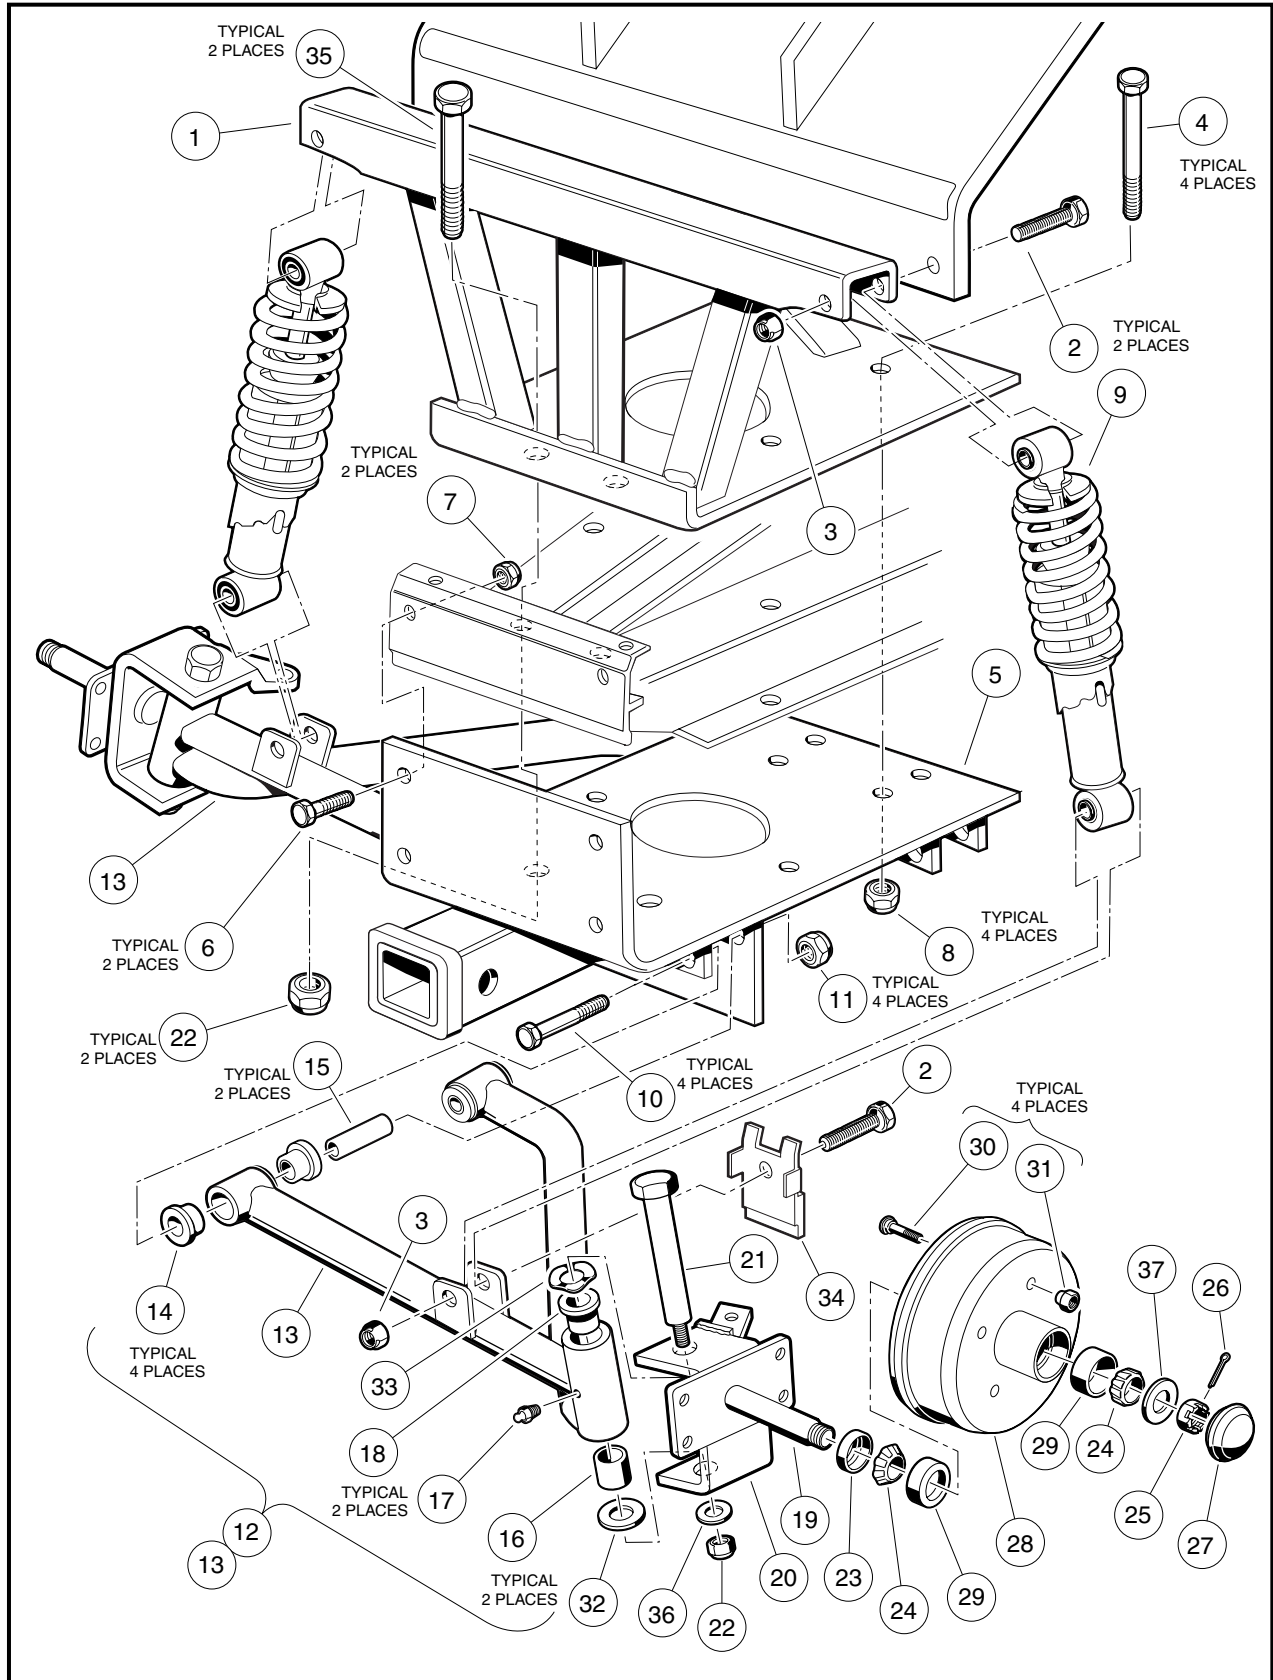

Figure 7-29 Front Suspension
5. Remove the nut (22), washer (36) and kingpin (21) (**Figure 7-29, Page 7-16**).
6. Remove the thrust washer (32).
7. Remove the wave washer (33) and inspect it. If the washer is broken or has a wave bottom to wave crest height dimension of less than 0.040 inch (0.10 cm), it must be replaced.
8. Slide the spindle assembly (20) off of the A-arm (13).
2. Inspect the kingpin (21) and spindle (19). If either are worn or damaged, they must be replaced (**Figure 7-29, Page 7-16**).
4. Install the spindle assembly (20) onto the A-arm (13) (**Figure 7-29, Page 7-16**).
5. Install the thrust washer (32), wave washer (33) and kingpin (21).
6. Install the washer (36) and a new lock nut (22). Tighten to 18 ft-lb (24.4 N·m).
8. Install the lock nut (24) and tighten to 40 ft-lb (54.2 N·m).
9. Install a new cotter pin (18) and bend it to secure it to the ball joint.
10. Use a grease gun and apply grease to the grease fitting (17) in the A-arm (13) (**Figure 7-29, Page 7-16**).
3. Remove the nut (22), washer (36) and kingpin (21) (**Figure 7-29, Page 7-16**).
4. Remove the thrust washer (32).
5. Remove the wave washer (33) and inspect it. If the washer is broken or has a wave bottom to wave crest height dimension of less than .040 inch (0.10 cm), it must be replaced (**Figure 7-29, Page 7-16**).
6. Slide the spindle assembly (20) off of the A-arm (13).
7. Remove the lower shock absorber mounting bolt (2), nut (3) and steering stop bracket (34).
8. Remove the two bolts (10), two nuts (11) and the A-arm (13) from the suspension mounting plate.
1. Inspect the bushings (14) and sleeves (15) in the A-arm (13) and replace if necessary (**Figure 7-29, Page 7-16**).
3. Install the A-arm (13) to the front suspension mounting plate using bolt (10) and nut (11) and tighten to 20 ft-lb (27 N·m) (**Figure 7-29, Page 7-16**).
4. Install the spindle assembly (20) onto the A-arm (13).
5. Install the lower shock absorber mount to the A-arm with bolt (2), nut (3), and steering stop/brake hose bracket (34) (**Figure 7-29, Page 7-16**). Align the bracket (34) with the shock absorber and tighten hardware to 20 ft-lb (29.7 N·m) (**Figure 7-30, Page 7-18**).
6. Install the thrust washer (32), wave washer (33) and kingpin (21).
7. Install the washer (36) and a new lock nut (22) and tighten to 18 ft-lb (24.4 N·m).
9. Install the lock nut (24) to secure the ball joint to the spindle and tighten to 18 ft-lb (24.4 N·m).
10. Install a new cotter pin (18) and bend to secure it to the ball joint.
11. Use a grease gun and apply grease to the grease fitting (17) in the A-arm (13) (**Figure 7-29, Page 7-16**). **See Lubrication on page 7-12.**
4. Remove the bolt (2) and nut (3) attaching the upper shock absorber mount to the A-arm (**Figure 7-29, Page 7-16**).
5. Remove the bolt (2) and nut (3) attaching the lower shock absorber mount and steering stop/brake hose bracket (34) and shock from the A-arm.